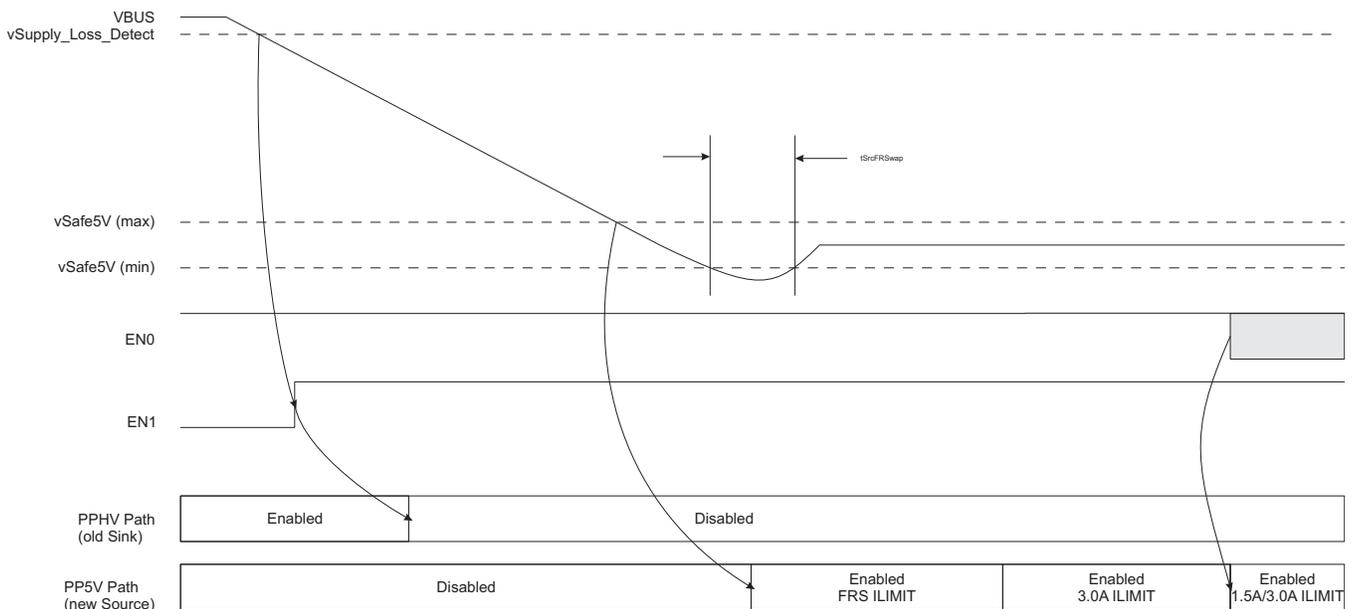
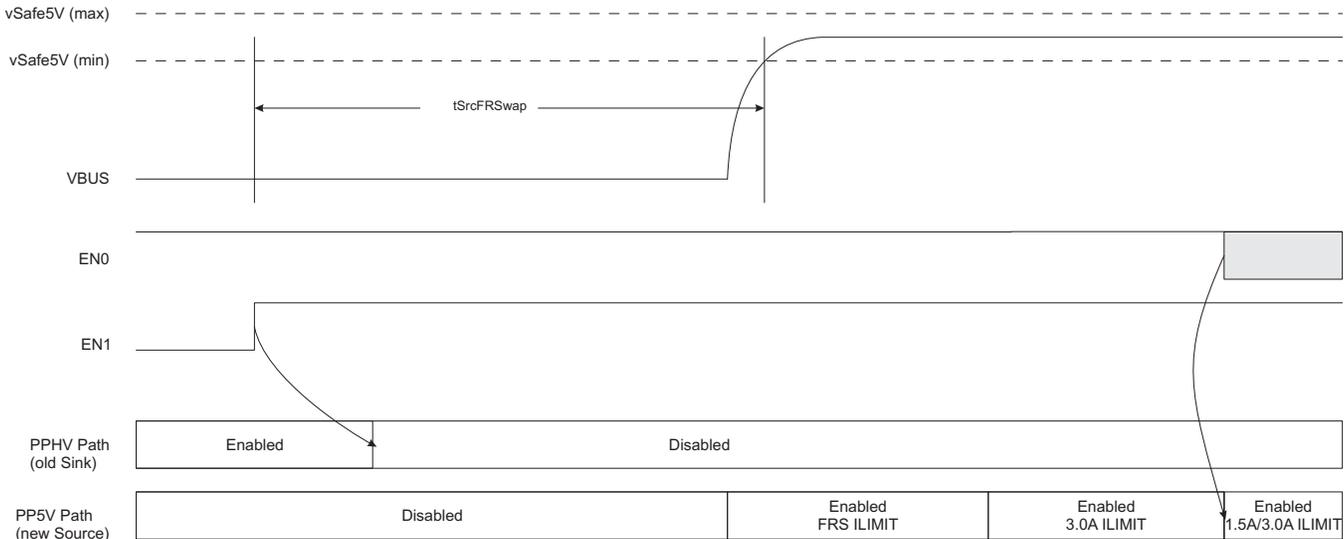

Figure 26. Fast Role Swap Events - Case 1
Figure 27. Fast Role Swap Events - Case 2
5. There are two cases to consider. In Case 1, as shown in Figure 26, VBUS begins to decay, while being continuously monitored by the vSafe5V comparator circuitry that indicates when VBUS has fallen below vSafe5V. Once this occurs, the comparator output is asserted indicating to the fast role swap hardware that it is safe to turn on the PP5V path, and the PP5V path is enabled automatically. In Case 2, as shown in Figure 27, VBUS may have fallen below vSafe5V, or even fully discharged to ground, so the comparator output may already be asserted low. If so, the PP5V path shall be immediately enabled. It should be noted in this scenario, since the VBUS capacitance has been fully discharged, a significant in-rush current will occur when the PP5V path is enabled. Application should ensure sufficient decoupling capacitance is applied on the PP5V supply or that the supply is designed to react to fast transient responses to avoid brown-out of the supply rail.